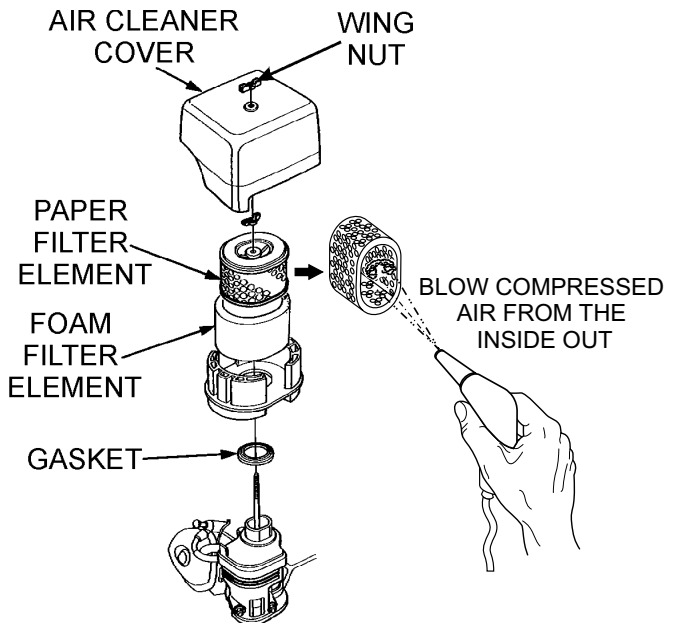

Figure 22. Engine Air Cleaner
1. Remove the air cleaner cover and foam filter element as shown in Figure 22.
2. Tap the paper filter element (See Figure 22) several times on a hard surface to remove dirt, or blow compressed air [not exceeding 30 psi (207 kPa, 2.1 kgf/cm2)] through the filter element from the air cleaner case side. **NEVER** brush off dirt. Brushing will force dirt into the fibers. Replace the paper filter element if it is excessively dirty.